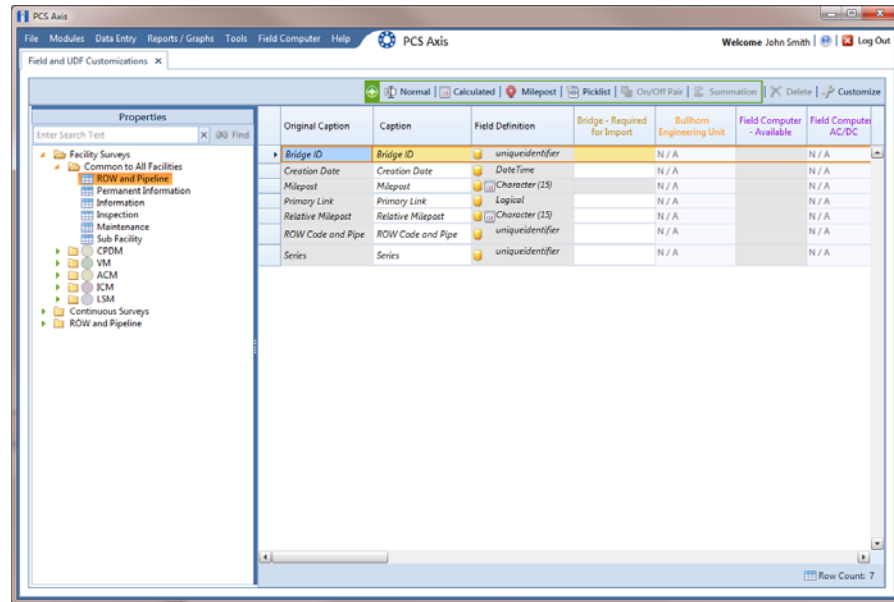

Figure 10-1. Field and UDF Customizations
- 1 Click **Tools** > **Field and UDF Customizations** to open the *Field and UDF Customizations* window (Figure 10-1, page 455).